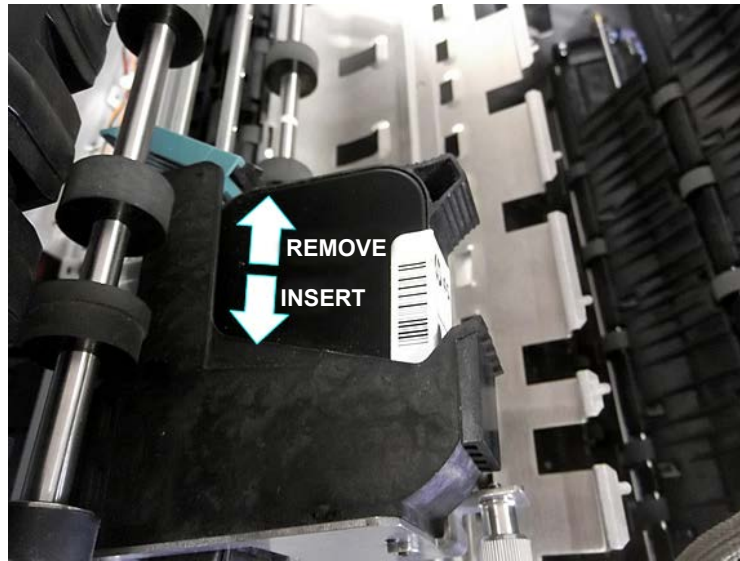

Figure 5-8: Removing/Inserting the Printer Cartridge
7. Once the lever is out of the way, the printer cartridge can be removed from the assembly by pulling it towards the back of the machine (see Figure 5-8).
8. Insert a new cartridge in the direction shown in Figure 5-8.